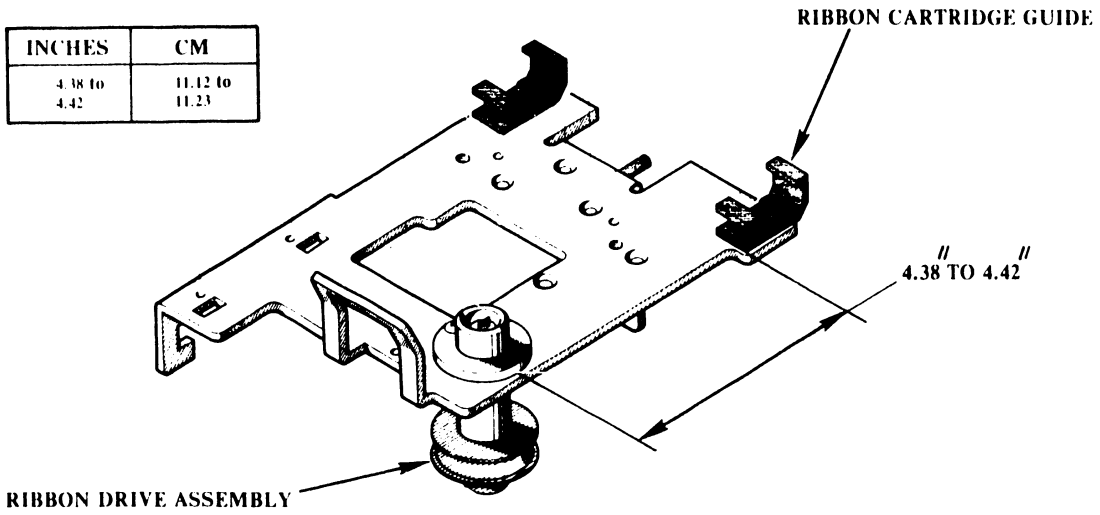

FIGURE 6-17 CARRIAGE ASSEMBLY
- 1) The distance from the center line of the ribbon-drive assembly to the inside front edge of the ribbon-cartridge guides must be 4.38 to 4.42 inches (11.12 cm to 11.23 cm). (See Figure 6-17.)
- 1) Loosen the Allen screws and move the ribbon-cartridge guides in the appropriate direction. (See Figure 6-17.)
- 3) Loosen the hex-head screw on the bottom of the carriage and move the ribbon-cartridge spring in the appropriate direction. (See Figure 6-17.)